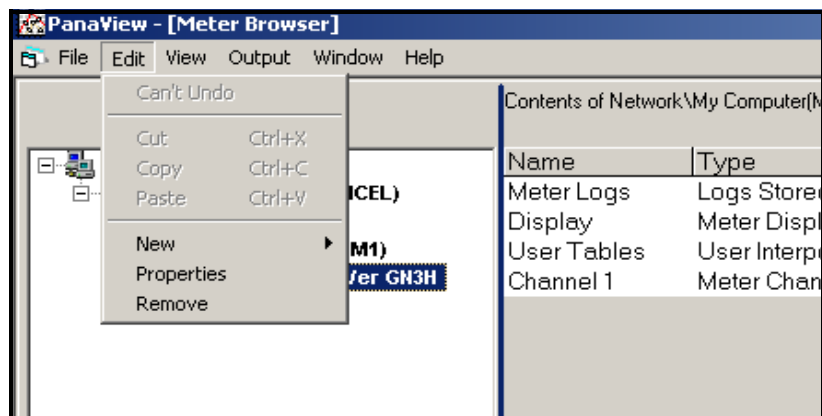

Figure F-8: The *Properties* Option in the *Edit* Menu
2. Open the "Edit" menu and select the "Properties" option, as shown in Figure F-8 below.